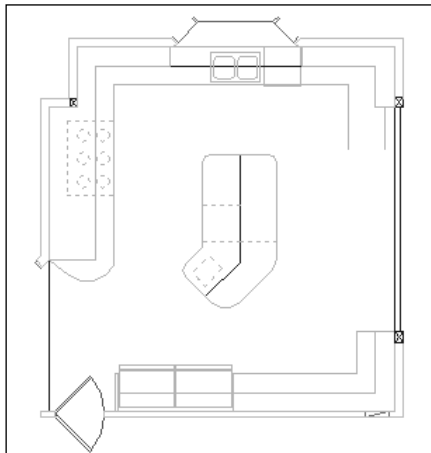

Figure 9-20: Kitchen floor plan with all selected items shown dashed.
8. Type **r ↵** at the **Select objects:** prompt (the prompt changes to **Remove objects:**) and pick the line at **8** to remove the external island line picked in Step 7. At this point, all the selected items should be dashed, as shown in Figure 9-20.
10. Turn on OSNAP. Start the MOVE command. At the **Select objects: prompt**, type **p** ↵ and then press Enter again to end object selection. At the **Specify base point or displacement: prompt**, pick the endpoint at 9 in Figure 9-20. At the **Specify second point of displacement or <use first point as displacement>: prompt**, pick the endpoint at 10. All the objects move.